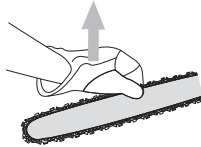

Fig. 36
4. Once adjusted, lift the tip of the guide bar up to check for proper tension (Fig. 36). If the chain is still too loose, release the tip of the guide bar and turn the chain-tensioning screw $\frac{1}{2}$ turn clockwise. Repeat this process until the desired tension is achieved.